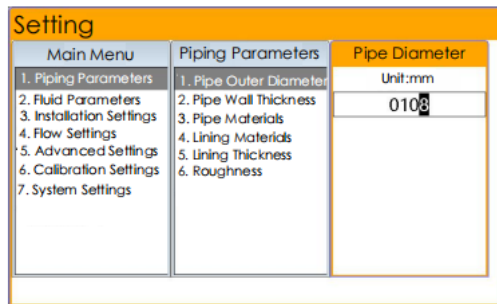

Figure 5 Outer Diameter Edit Box
1) Select "Pipeline Parameters", and then press  to enter the secondary menu, select "Pipeline OD", and then press  to enter the OD edit interface (Figure 5), type in the pipe OD value, and then press  to save the OD value, the system will automatically return to the previous menu.